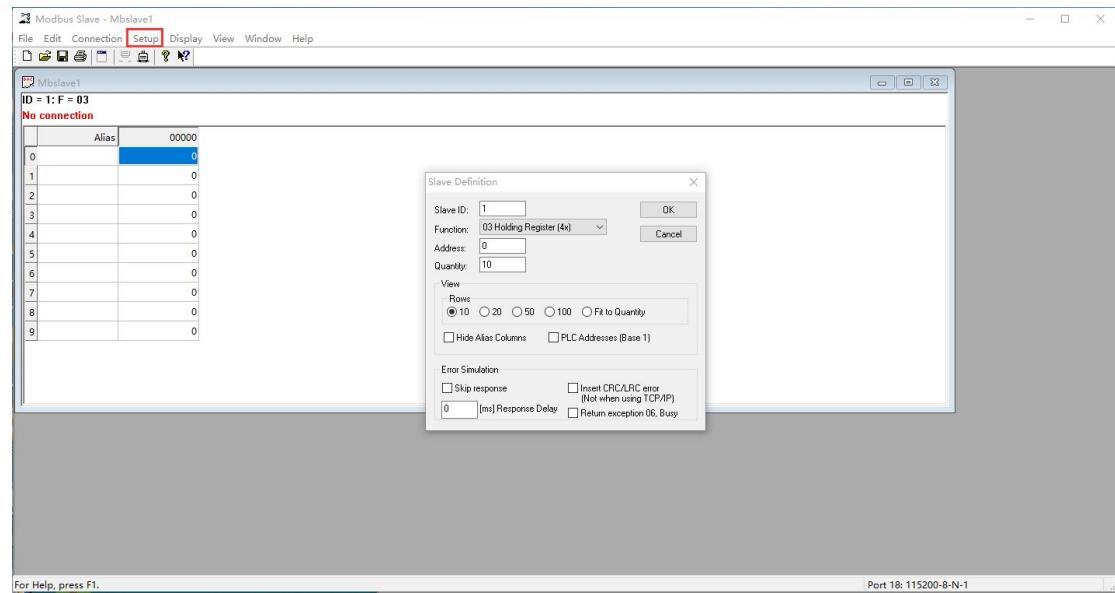

Figure 6-32 Slave software MODBUS protocol settings
- 5) Open the "Modbus Slave" tool, the MODBUS protocol setting is the same as "Modbus Poll", and select the function. Code 3, as shown in Figure 6-32.